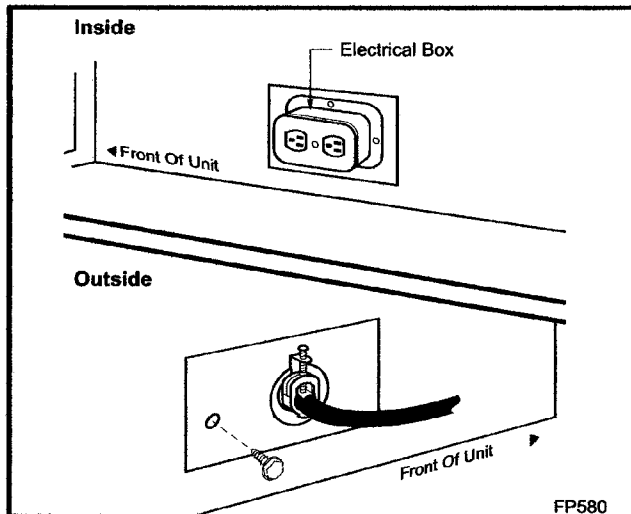

Fig. 9 Junction box (EB-1) hook-up.
Secure the EB1 assembly to the inside of the electrical box coverplate using two (2) screws. Attach the cover to the face of the EB1 while being careful to position excess wire completely within the EB1. Attach the coverplate to the fireplace. (Fig. 9)